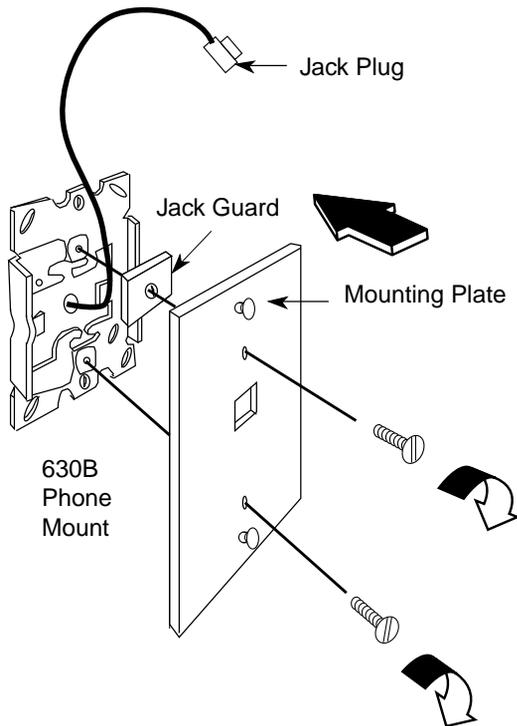

Figure 3-37. Mounting the Backplate
- e. Insert the two short screws provided with the Phonemount into the mounting plate. Be sure to thread the upper screw through the jack guard. See Figure 3-37.